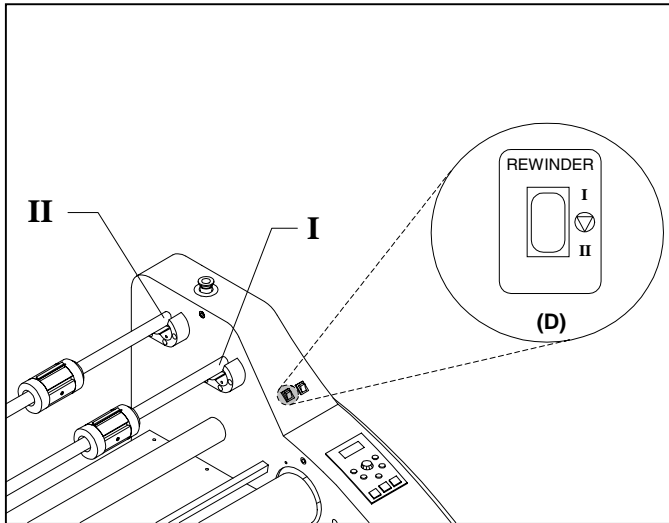

Fig. 8
**SWITCH:** (Figure 8) This switch enables the operator to control the function of the upper rewind/unwind shafts.